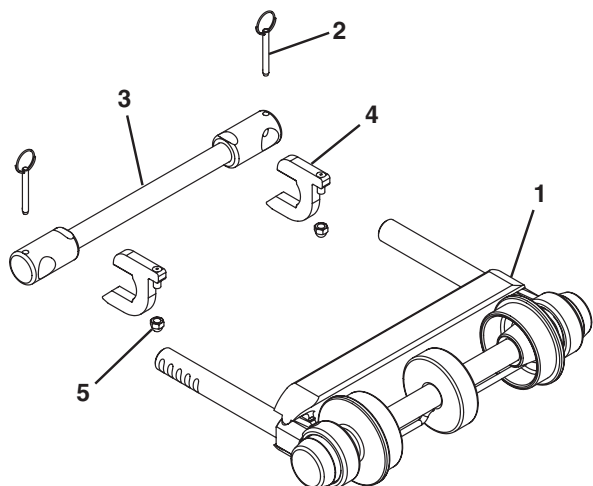

Figure 11
Typical Tip Up Tail Components (Figure 11)
Adjust the acorn nuts (Figure 11, item 5) on the key stops (Figure 11, item 4) to raise or lower the tip up tail assembly.